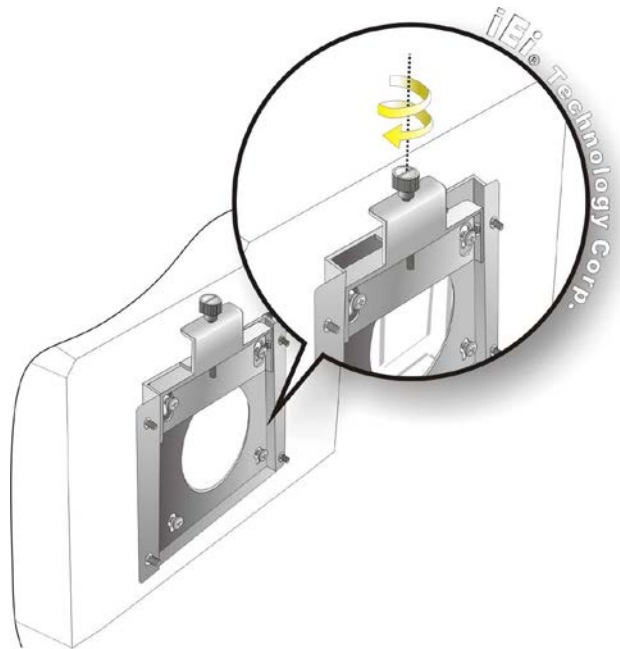

Figure 3-10: Secure the Panel PC
Step 9: Secure the panel PC by fastening the retention screw of the wall-mounting bracket. (Figure 3-10).